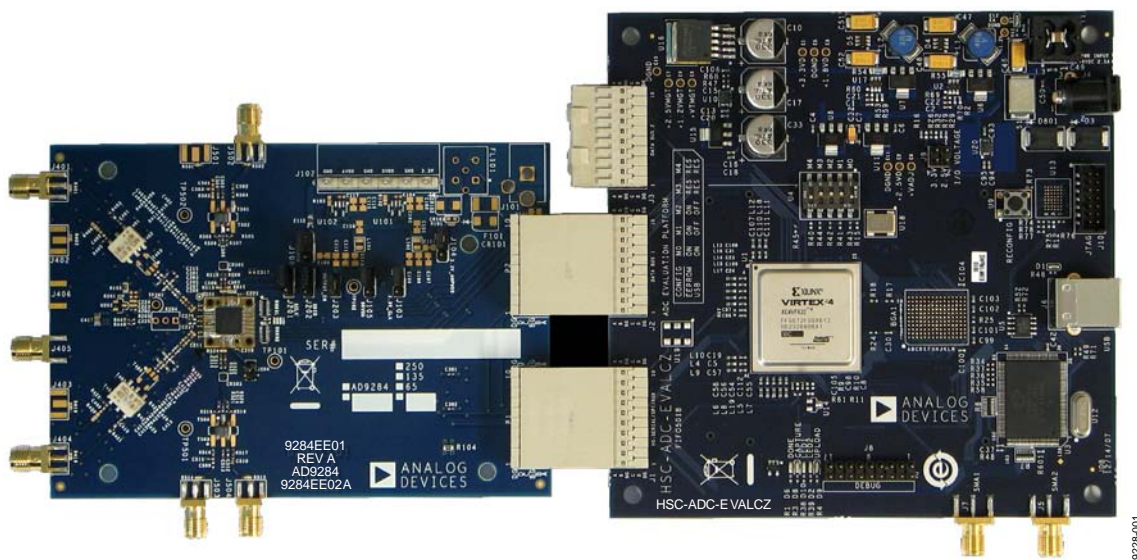
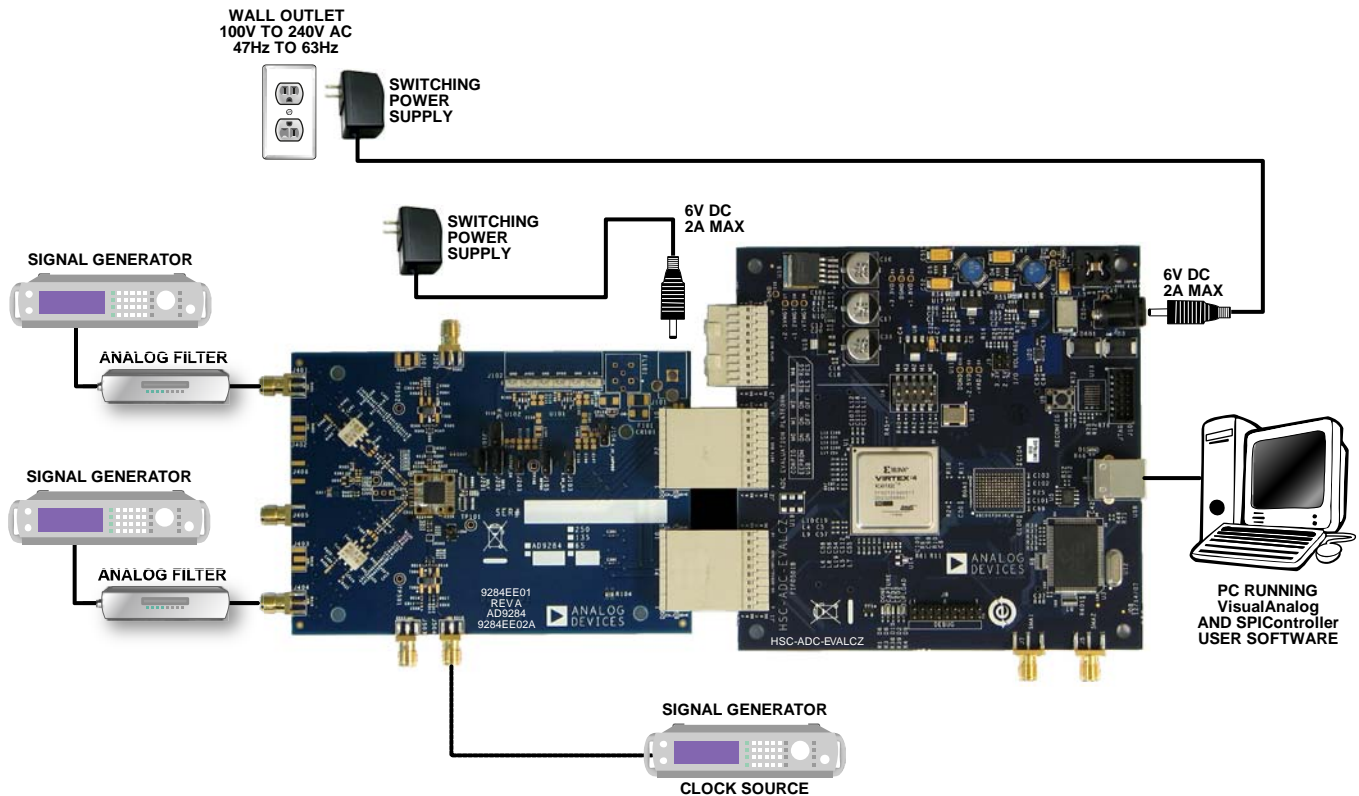

Figure 1. AD9284 Evaluation Board and HSC-ADC-EVALCZ Data Capture Board
Figure 2. Evaluation Board Connection
The AD9284 evaluation board provides all of the support circuitry required to operate the AD9284 in its various modes and configurations. Figure 2 shows the typical bench characterization setup used to evaluate the ac performance of the AD9284. It is critical that the signal sources used for the analog input and clock have very low phase noise (<1 ps rms jitter) to realize the optimum performance of the signal chain. Proper filtering of the analog input signal to remove harmonics and lower the integrated or broadband noise at the input is necessary to achieve the specified noise performance.
1. Connect the evaluation board to the data capture board, as shown in Figure 1 and Figure 2.